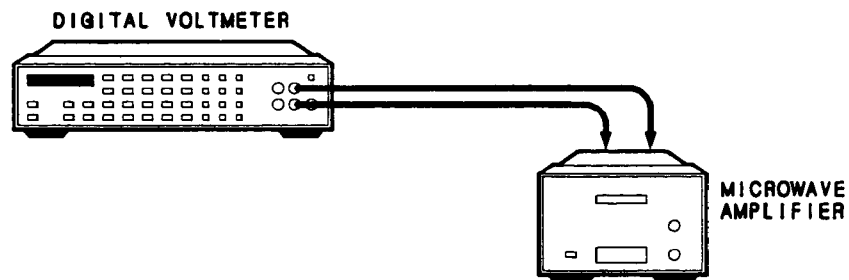

Figure 5-1. Power Supply Adjustment Setup
1. Configure test setup as in Figure 5-1.